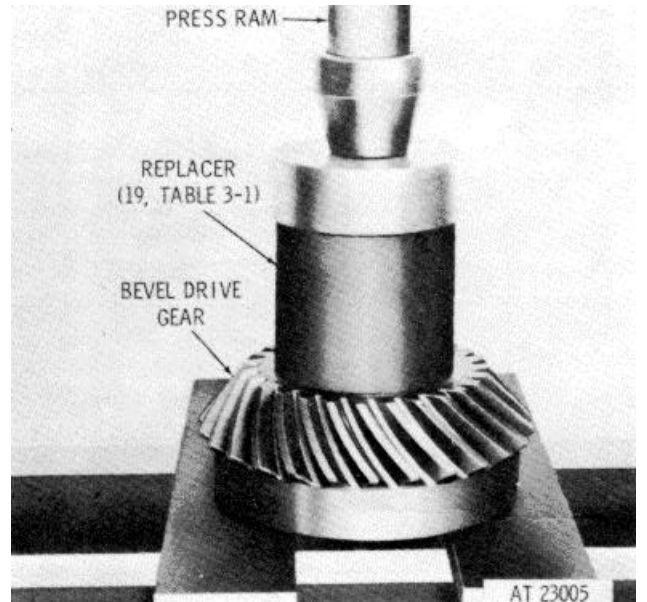

Figure 7-24. Installing rear bearing outer race into bevel drive gear
- b. Install the rear bearing outer race into the bevel drive gear, using replacer (19, table 3-1). Press the race until it is firmly seated in the gear (fig. 7-24).